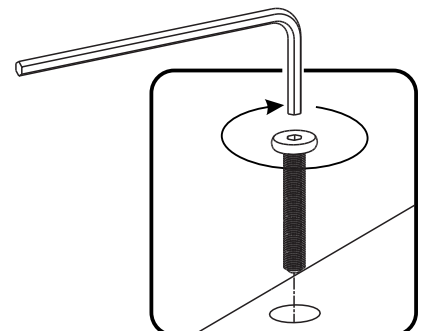

Figure 3
Attach Base (J) to unit with 4 pcs. of **02**. (See Figure 3)